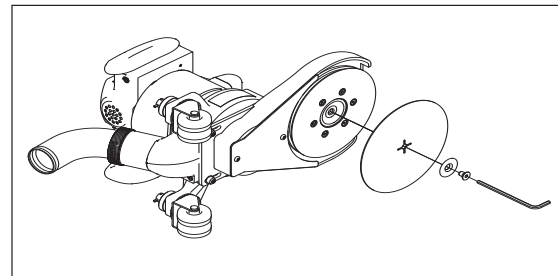

Figure 3
2. The machine will accept either hook and loop or center-hole abrasive disc. The tool is equipped with a retaining screw and washer for use with the center-hole abrasive. When installing abrasive disc, take care to center disc on driver. (Figure 3)